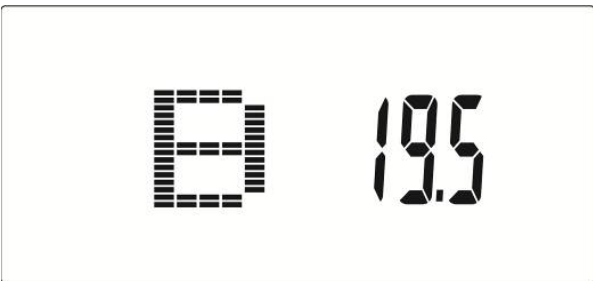
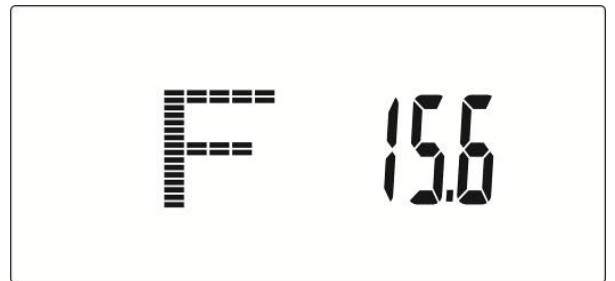

Fig. 23
Fig. 24
4. The LCD screen displays the BMI (fig. 23), the fat percentage (FAT %, fig. 24), and the body fat symbol (BODY FAT, fig. 25).